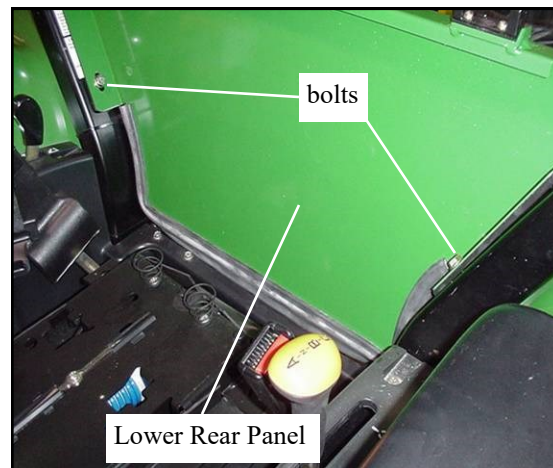

Fig. 2.3
- 1.3 Remove, and save, the long bolts attaching the fender to the roll bar on each side. See fig. 2.3 for bolt locations.
- 2.3 Secure the lower rear panel to the roll bar using the two bolts previously removed in VEHICLE PREP. step 1.3. (See fig. 2.3.)